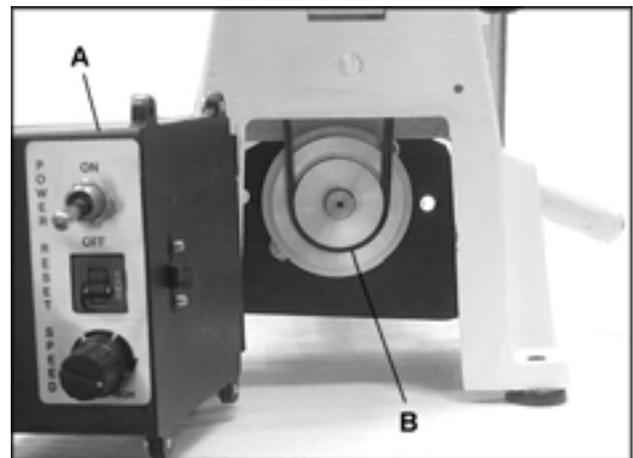
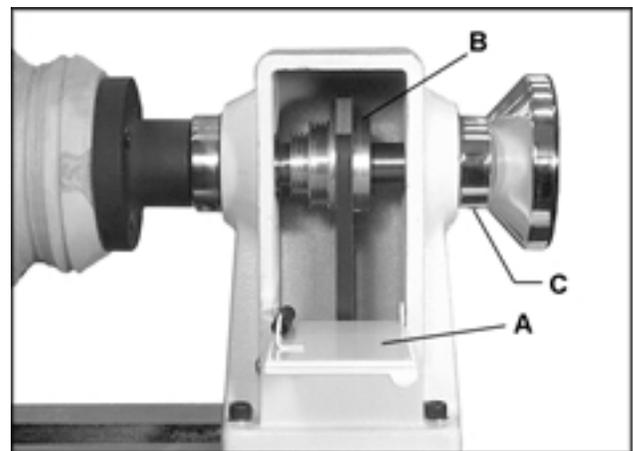

Fig. 10
Fig. 11
2. Pull open the control box at the left side of the base (A, Fig. 10), and the access door at the back side of the headstock (A, Fig. 11) to expose the pulleys.
4. Move the belt (B, Fig. 10) to the desired pulley groove according to the speed chart found on the inside of the headstock access door. Be sure the belt is aligned with spindle pulley and motor pulley.
6. Open the access doors at the left side of the base (Fig. 10), and at the back side of the headstock (Fig. 11).
3. Loosen the set screw (B, Fig. 11) on spindle pulley (upper).
4. Loosen two set screws in handwheel (C, Fig. 11). Unscrew the handwheel while holding onto the spindle.